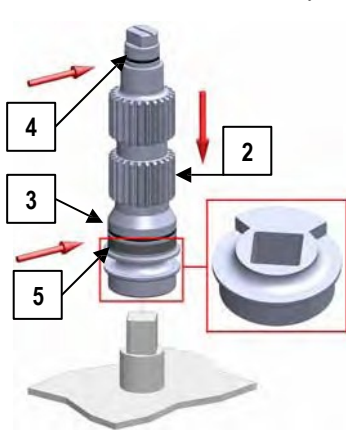

Fig. 19
2. Place the pinion (2) on a support with a square of the same size of the female attachment. Make sure that the pinion is provided with lower O-ring (3), spacer (5) and upper O-ring (4). Lubricate the O-rings (see arrows Fig. 19). The recommended lubricating grease is "KLUBER" TRIBO STAR 1EP"